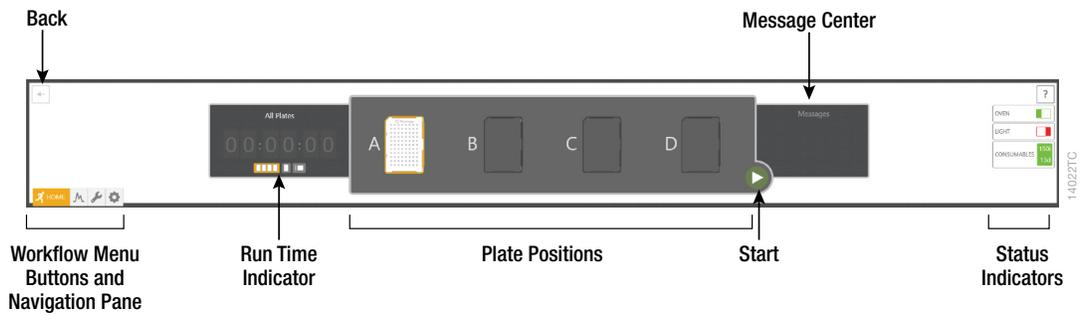
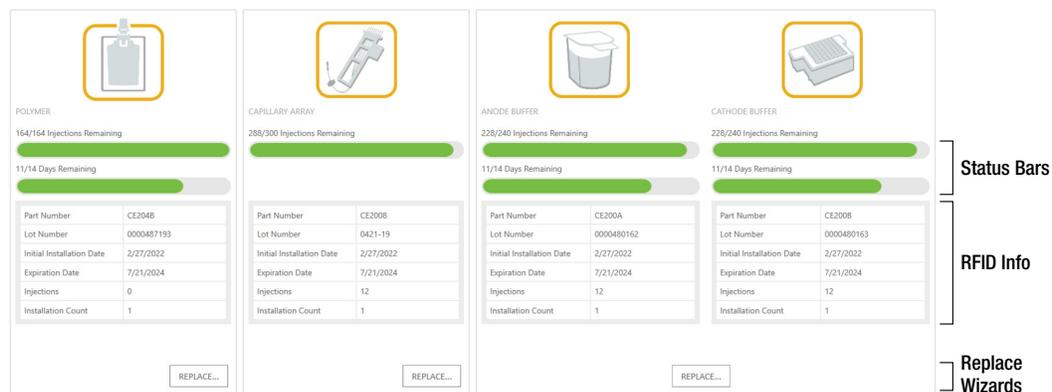

Figure 6. Header.
Figure 7. 'Consumables' screen.
Open the Spectrum Control Software (SCS). Upon launching the SCS, the 'Home' screen will be displayed (Figure 5). This screen provides access to the four workflow menus (Home, Review Plates, Maintenance and Settings; see Figure 6) as well as status indicators. The screen is divided into three sections: Header, Task Pane and Status Bar.
The Header (Figure 6) is fixed and remains available to the user throughout all navigation processes. This area contains Status Indicators, Message Center, Start Button, Run Time Indicator and Workflow Menu. The Header also shows the status of the plate positions within the Plate Drawer.
Before starting a run, ensure all consumables are installed and in sufficient supply. For best results, use unexpired reagents that are within the recommended use range. Refer to the 'Consumables' screen (Figure 7) to determine if any consumables need to be replaced. To access the 'Consumables' screen, select the Consumables status indicator in the Header on the SCS screen (Figure 6). The 'Consumables' screen (Figure 7) displays information for the four RFID-tagged consumables on the instrument: Polymer, Capillary Array and Anode and Cathode Buffers.
Select **Oven Heater Indicator** in the Header (Figure 6) to start preheating the oven to 60°C. The oven temperature will be displayed in the status bar at the bottom of the screen and the indicator will change from red to green when the oven preheating is complete.
3. Confirm the drawer handle light is illuminated, indicating that the drawer is unlocked and ready for plate loading. Alternatively, check the Message Center to verify that the drawer is unlocked. The Drawer Status indicator is in the Message Center located in the Header (Figure 6).